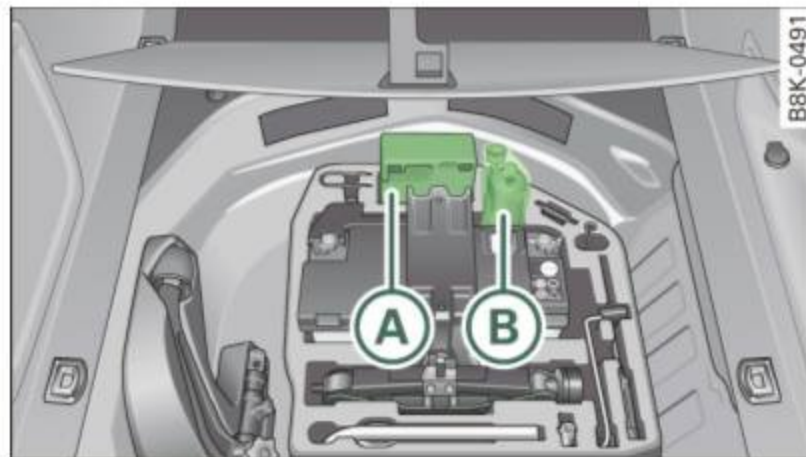

Fig. 217 Luggage compartment: tire mobility system
The tire mobility system consists of a **tire sealant** ⇒ fig. 217 (B) to protect the tire from damage and a **compressor** (A) to generate the